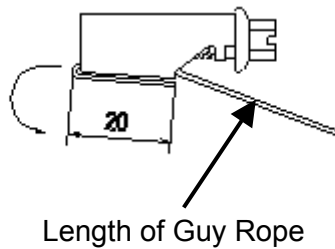

Figure 8: Strap Housing
2. Insert the strap into the housing from the screw head side, and bend a projection of 20mm over the ridge (see **Figure 8**).